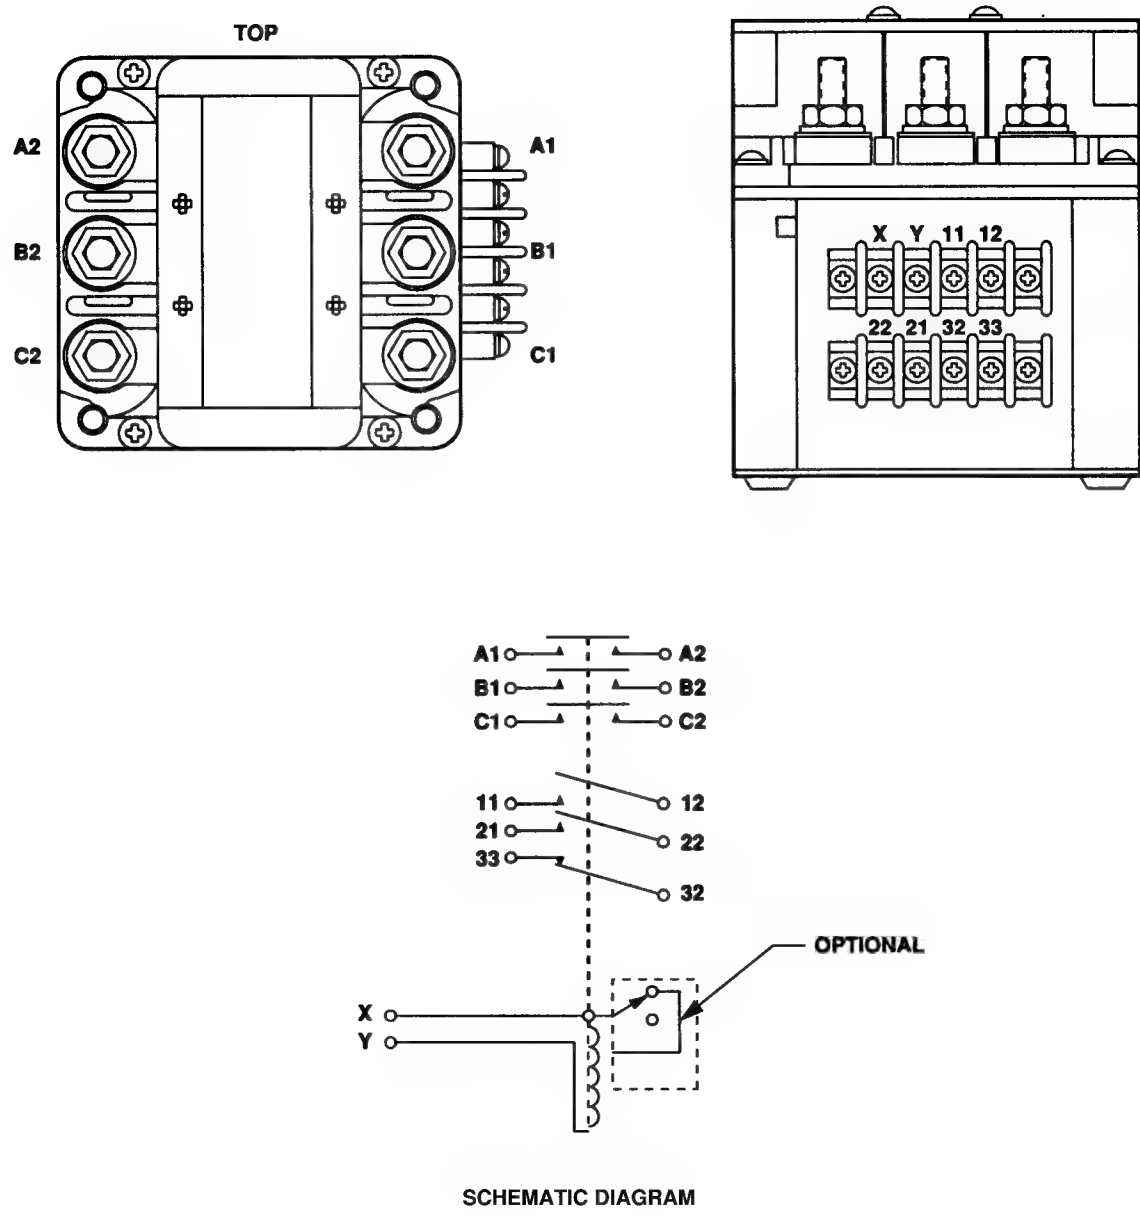

Figure 5-12. Contactor Test Points.
a. Using a multimeter, test contactor K1 (16) as follows:
(1) Refer to figure 5-12 and perform following continuity checks. If any multimeter indication is not correct, replace contactor \(paragraph 5-12\).